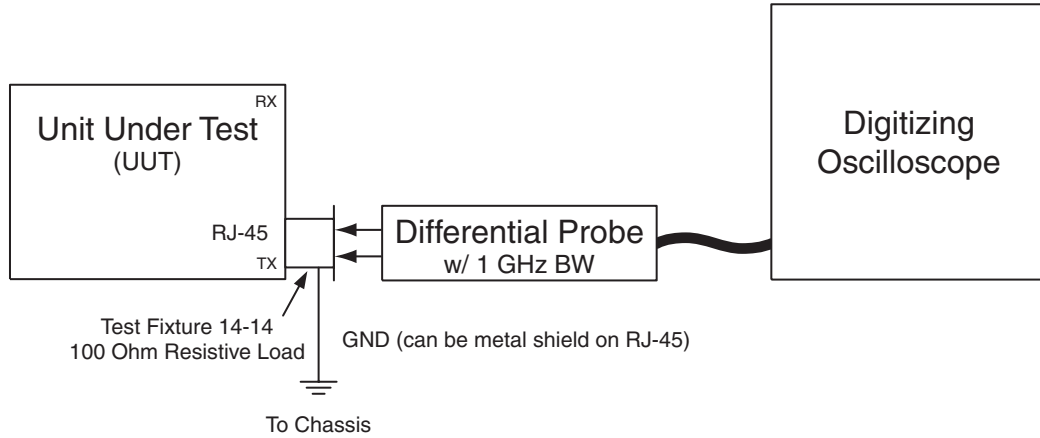

Figure 20-1 Test Setup for 10BASE-T TD Circuit Common-Mode Output Voltage
1. Insert test fixture into the UUT and attach differential probe and BNC cable to common-mode terminals on the fixture as shown in Figure 20-1.